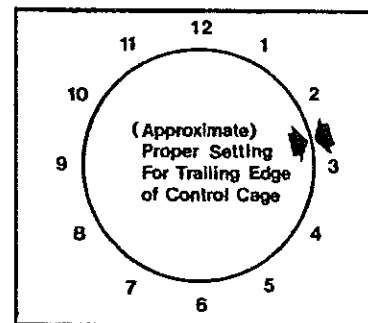

Figure 11.
- (1) Blast wheel rotation. The blast wheel must rotate in the direction indicated by the arrow on the wheel housing.
- (2) Worn wheel kit parts. The blades, impeller, and control cage (in wheel kit form) must be replaced periodically to insure correct operation and the proper blast pattern and balance.
- (3) Abrasive size. The size of abrasive affects the blast pattern necessitating adjustment of the control cage to correspond with small or large abrasive. (FIG. 11).
- (b) Position trailing edge at approximately 2:30 - 2:45 on the clock face. (FIG. 11).